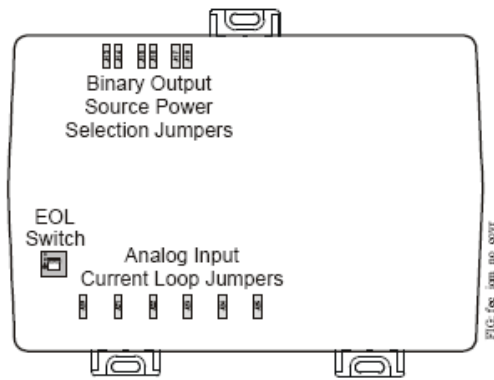
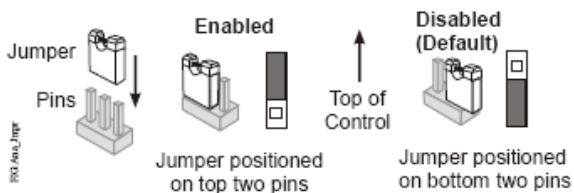

Figure 10: FEC26 with Cover Removed Showing Jumper and EOL Switch Positions
Figure 13: Current Loop Jumper Positions
Each field controller has an End-of-Line (EOL) switch, which, when set to ON/up, sets the field controller as a terminating device on the bus. See Figure 3 or Figure 10 for the EOL switch location on the field controller. The default EOL switch position is off/down.
The Universal Input (UI) current loop fail-safe jumpers are on the circuit board under the housing cover near the UI terminals (Figure 10). When a UI is defined (in the system software) as a 4-20 mA analog input and the UI's current loop jumper is in the (default) Disabled position (Figure 13), the 4-20 mA current loop circuit opens whenever power to the FEC is interrupted or off.
Setting the current loop jumper to the Enabled position (Figure 13) connects an internal 100 ohm resistor across the UI terminals, which maintains the 4-20 mA current loop circuit even when power to the FEC is interrupted or off.